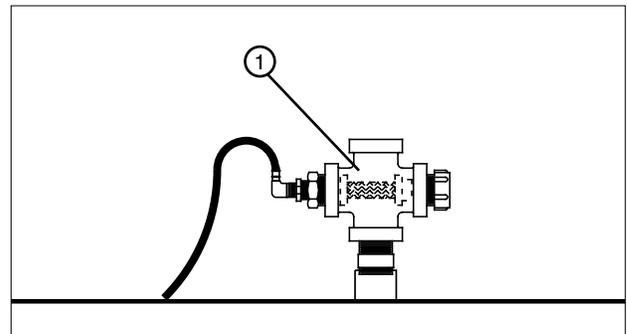

Figure 49-3 1. Cross Filter
- Clean the end gun shut off solenoid valve cross filter or optional dirty water filter. See figures 49-3 and 49-4.